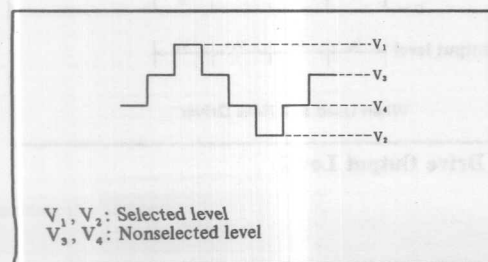

Figure 1 Power Supply for Driving LCD
**V1, V2, V3, and V4:** V1-V4 supply power for driving LCD (figure 1).